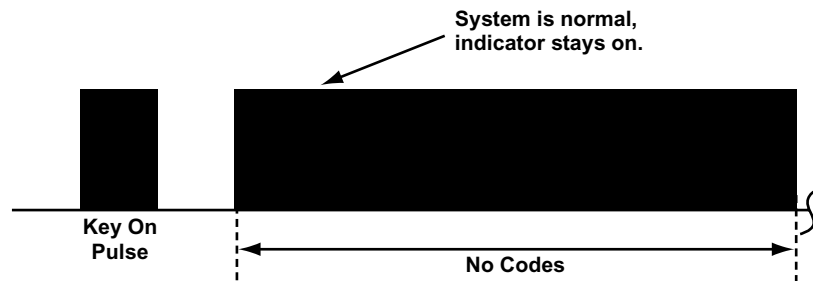

Figure 8-46 Honda SRS Code Type 06 - Normal (no failure), SRS indicator stays on
- Type 06 with no failure, see Figure 8-46 and Table 8-15 on page 87